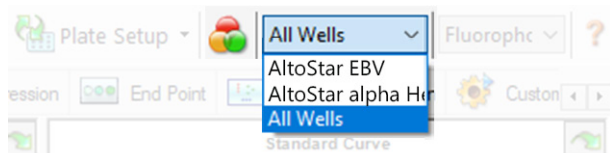

Figure 4: Well Group button and Well Group drop-down menu
In the Data Analysis window ensure to select the **Well Group** of the AltoStar® EBV PCR Kit 1.5. Therefore, click on the **Well Group** drop-down menu right next to the **Well Group** button (see figure 4) of the toolbar. Do not use the “All Wells” **Well Group**. The selection in figure 4 is used as a general example view.
1. In the Data Analysis window ensure to select the **Well Group** of the AltoStar® EBV PCR Kit 1.5. Therefore, click on the **Well Group** drop-down menu right next to the **Well Group** button (see figure 4) of the toolbar.